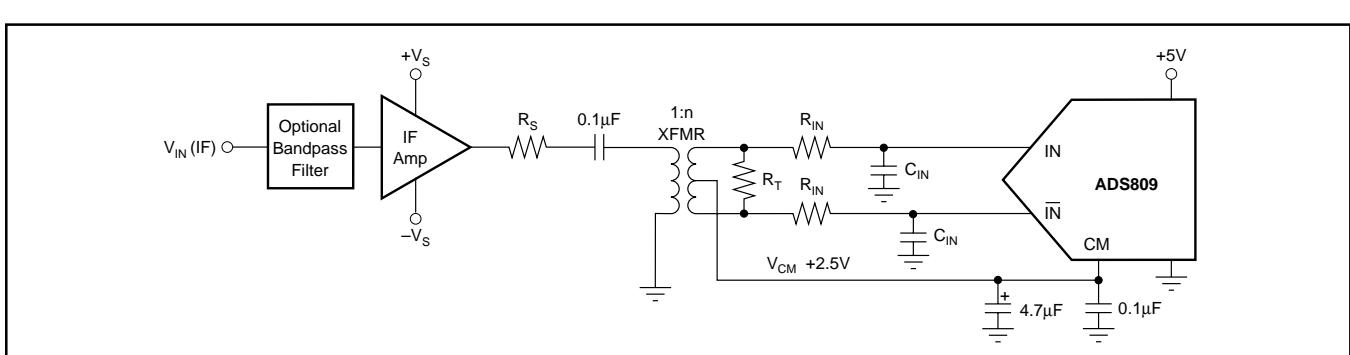

FIGURE 4. Driving the ADS809 with a Low Distortion RF Amplifier and a Transformer Suited for IF Sampling Applications.
One possible interface solution that uses a transformer is given in Figure 4. The input signal is assumed to be an Intermediate Frequency (IF) and bandpass filtered prior to the IF amplifier. Dedicated IF amplifiers, for example the RF2312 or MAR-6, are fixed-gain broadband amplifiers and feature a very high bandwidth, a low-noise figure, and a high intercept point at the expense of high quiescent currents of 50 to 120mA. The IF amplifier may be AC-coupled or directly connected to the primary side of the transformer.
A variety of miniature RF transformers are readily available from different manufacturers, i.e.: Mini-Circuits, Coilcraft, or Trak. For the selection, it is important to carefully examine the application requirements and determine the correct model, the desired impedance ratio, and frequency characteristics. Furthermore, the appropriate model must support the targeted distortion level and should not exhibit any core saturation at full-scale voltage levels. Since the transformer does not appreciably load the ladder, its center tap can be directly tied to the CM pin of the converter (see Figure 4). The value of termination resistor ( $R_T$ ) should be chosen to satisfy the termination requirements of the source impedance ( $R_S$ ). It can be calculated using the equation  $R_T = n^2 \cdot R_S$  to ensure proper impedance matching.